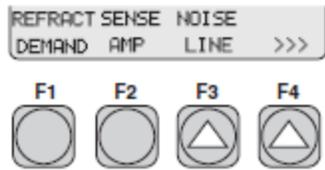

Fig. 5
- *Press F2 “Sense Amp” test. Figure 5*